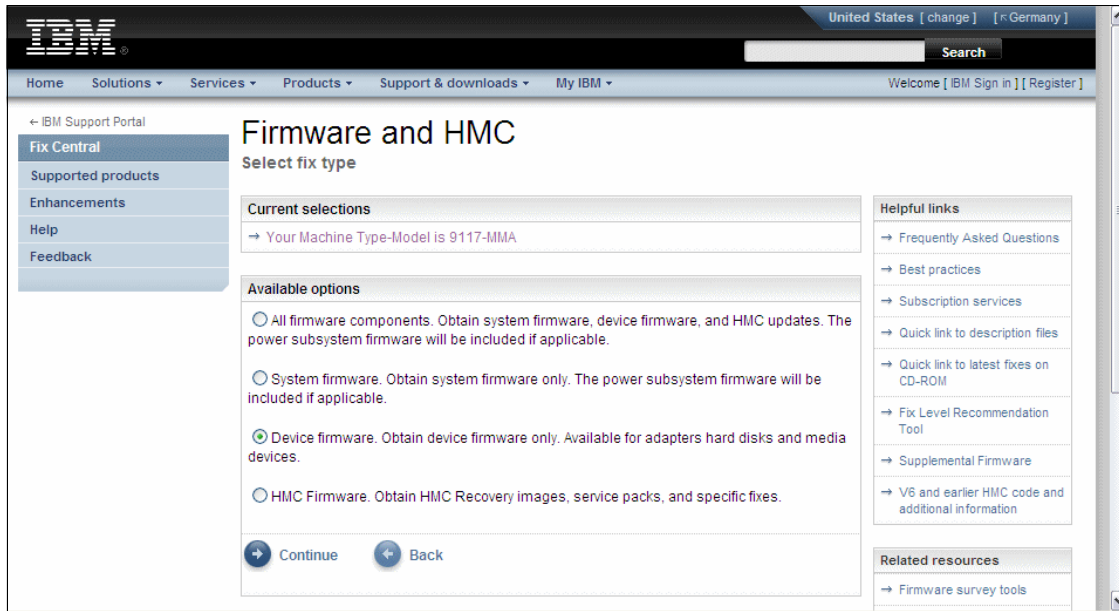

Figure 11-15 IBM Fix Central website: Firmware and HMC
5. Select **Device Firmware** and click **Continue** as shown in Figure 11-15.